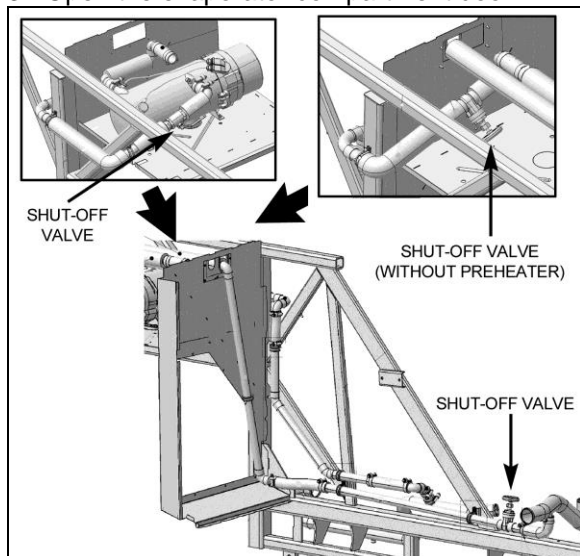
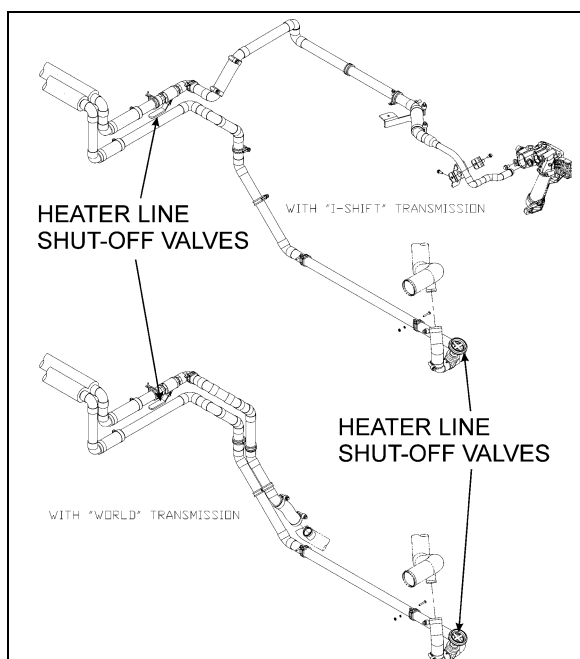

FIGURE 73: H3 SERIES HEATER LINE SHUTOFF VALVES
FIGURE 74: X3 SERIES HEATER LINE SHUTOFF VALVES
3. Close the hot water lines shut-off valves located next the engine on street side (see Figure 73).
2. Close both heater line shutoff valves (Figure 73 or Figure 74). One is located in the engine compartment under the radiator fan gearbox, while the other one is located behind the L.H. hinged rear fender near the preheater.